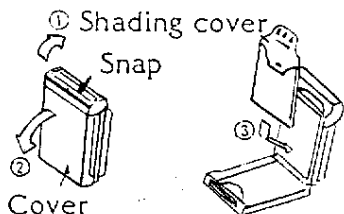

Fig. 9-1
(1) Film Loading:
- a. Open the cover of Polaroid camera back, and insert a film pack (Fig. 9-1).